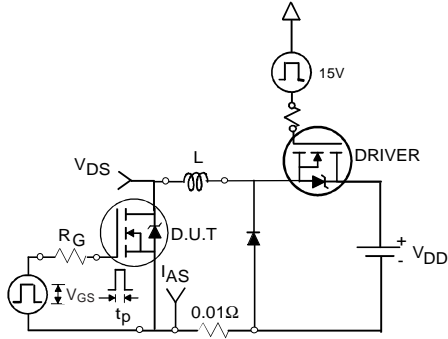

Fig 12a. Unclamped Inductive Test Circuit
| I_{AR} | Avalanche Current ④ | See Fig.12a, 12b, 15, 16 | A |
- ③ Pulse width $\leq 1.0ms$; duty cycle $\leq 2\%$.
- ④ $C_{oss\ eff.}$ is a fixed capacitance that gives the same charging time as C_{oss} while V_{DS} is rising from 0 to 80% V_{DSS} .
- ⑤ Limited by T_{Jmax} , see Fig.12a, 12b, 15, 16 for typical repetitive avalanche performance.
- ⑥ This value determined from sample failure population. 100% tested to this value in production.
3. Equation below based on circuit and waveforms shown in Figures 12a, 12b.